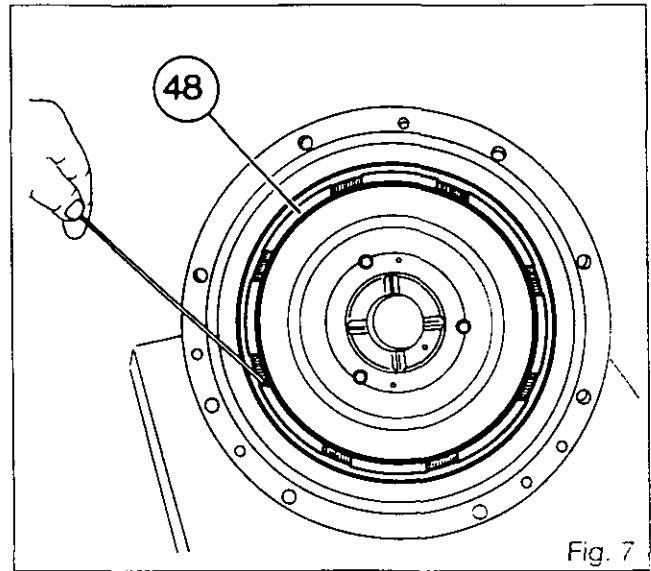

Fig. 7
18. Unscrew the bolts holding the slave cylinder assembly in place and take the assembly out. Withdraw piston (48) from the cover (Fig.7).